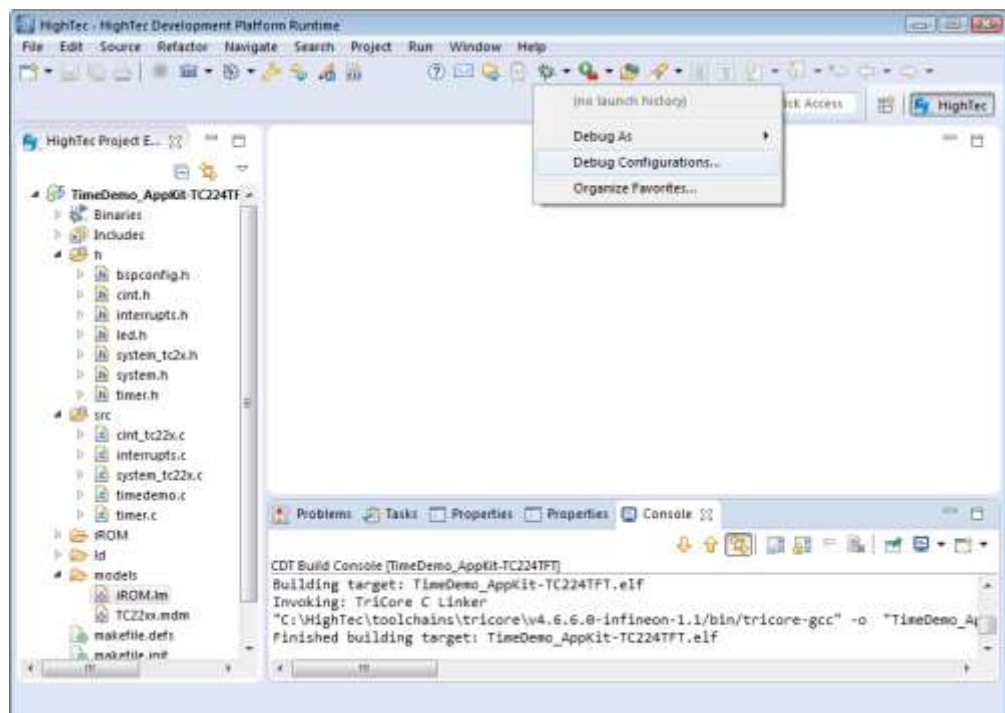

Figure 28 Select Debug Configurations dialog via Debug button
1. Open the context menu (left mouse click) at the debug button and select **Debug Configurations ...** (Figure 28).